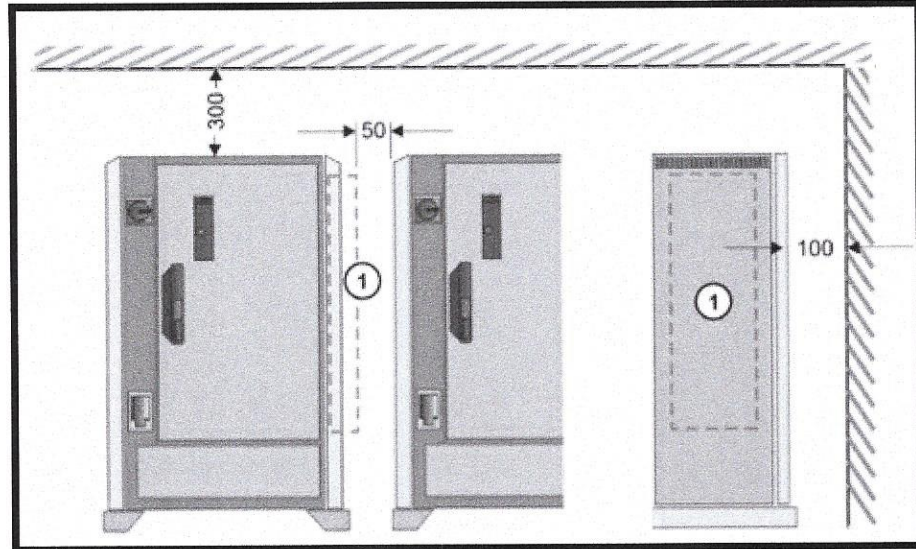

Figure: 1.5: Minimum clearances (dimension in mm)
1. The minimum clearances that must be maintained for the robot controller indicated in the **Figure 1.5**. During inspection, found the robot controller did not follow the specified minimum clearances. If the minimum clearances are not maintained, this can result in damage to the robot controller. The specified minimum clearances must always be observed.